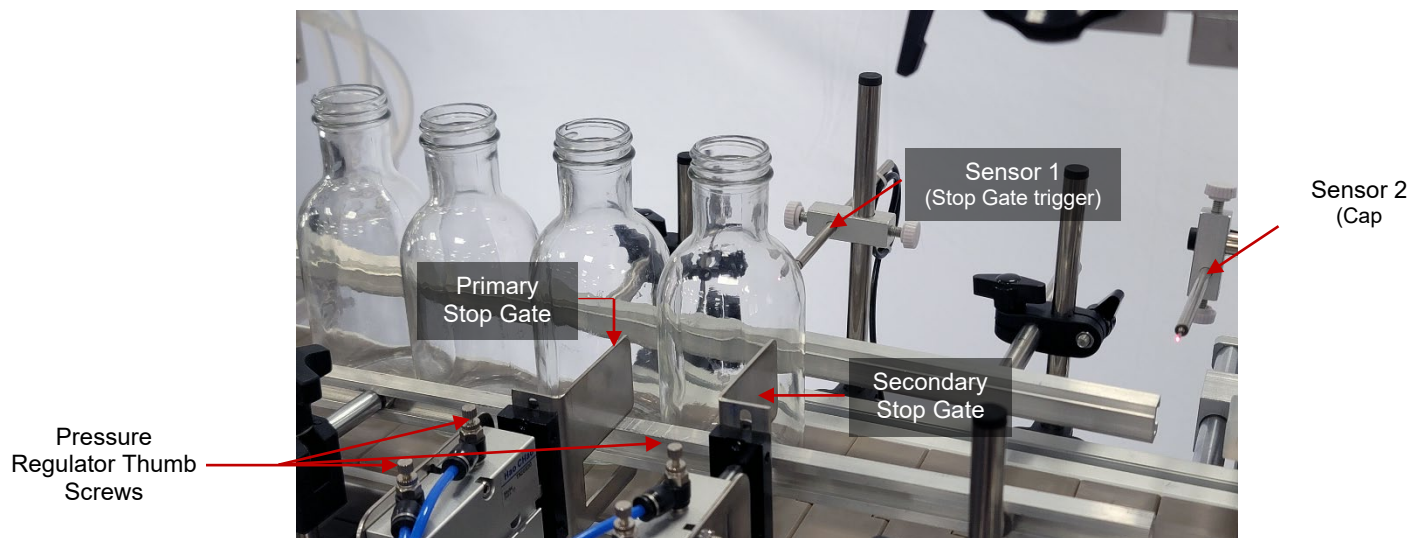

Figure 5.
2. Position “Sensor 1” between the gates and no more than a centimeter from the bottle. See Fig. 5.
- If you find that any of the machine’s pneumatic parts are not operating fast enough or are operating too fast, you can adjust the PSI to each component using the thumbs screws seen in Fig.5.
1. With the bottle secure in the clamp, turn the cap width knob in Figure 5 counterclockwise until it stops.